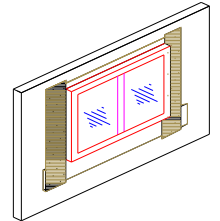

Figure 5
9. At each jamb, embed the flashing paper into the sealant on the mounting flange and fasten in place. The flashing paper should be cut sufficiently long enough to extend at least 3 inches past the sill flashing paper and at least 6 inches above the head of the window. (See Fig. 5)